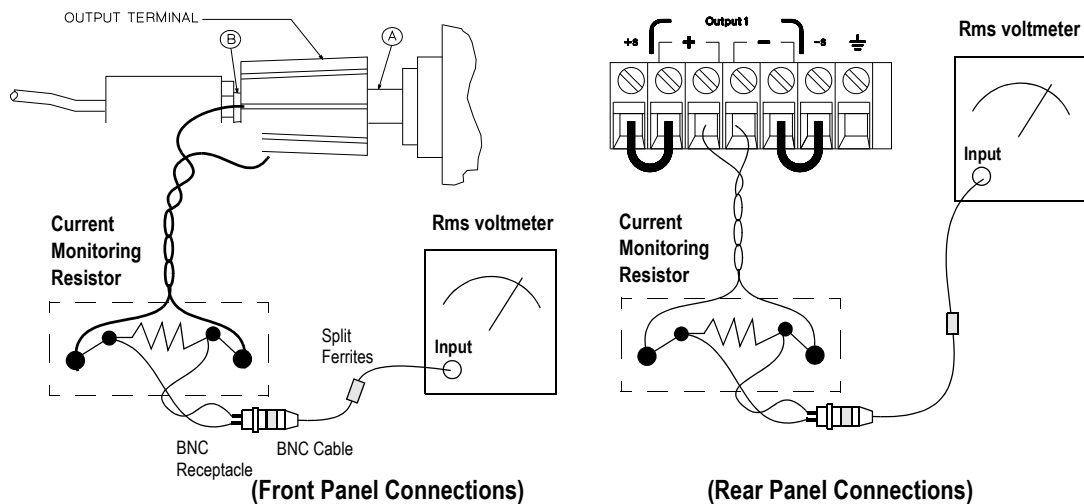

Figure 8-6 CC PARD connections (ripple and noise)
For better measurement results, it is recommended to make the connection between the BNC receptacle and the output terminals as short as possible, and to use the recommended split ferrites with the BNC-to-BNC cable as shown in Figure 8-6.
- 1 Turn off the power supply and connect the output to be tested as shown in Figure 8-6 with the current monitoring resistor 0.2Ω (R_{M2}) across output terminals. Connect an rms voltmeter across the current monitoring resistor as shown in Figure 8-6.